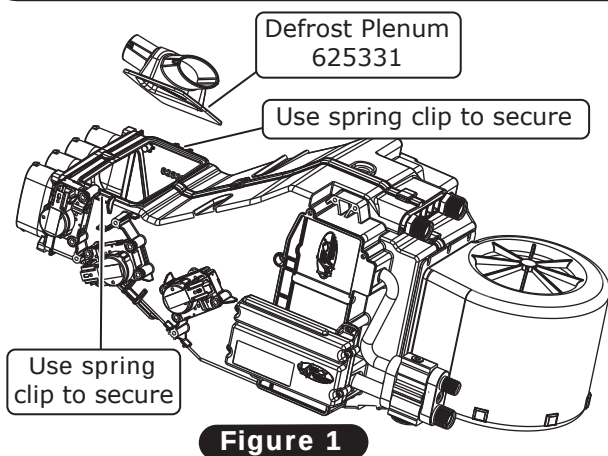

Figure 1
1. Route the A/C and heater hoses from the A/C block-off plate to the kick panel fresh air cap as shown in Figures 1 and 1b, below.
1. With the evaporator module on the passenger-side floorboard, install the defrost plenum onto the evaporator module as shown in Figure 1, below. Use (2) spring clips to secure the defrost plenum (See Figure 1, below). Install the upper and lower heater hoses and hose clamps onto the upper and lower heater fittings on the evaporator module (See Photos 1 and 2, below).